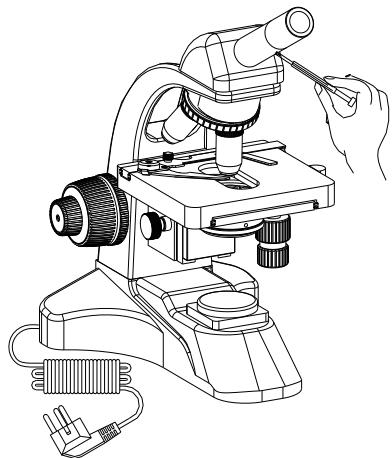

Fig.4
6.5 Insert the Eyepiece: slide the eyepiece into the Eyepiece tube. (Fig.4)